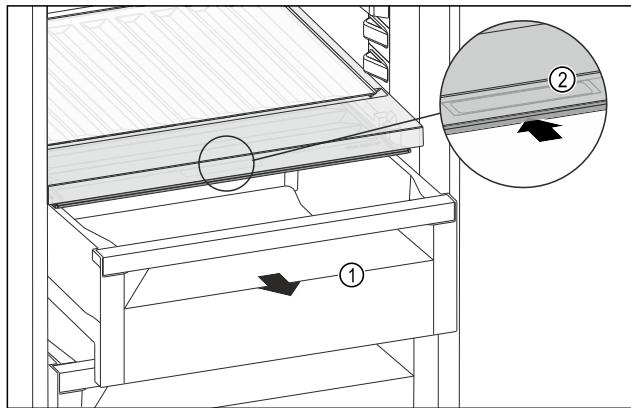

Fig. 98
- Pull out the drawer Fig. 98 (1).
- Grasp the recessed grip Fig. 98 (2) on the compartment lid and push the compartment lid backwards at the same time.